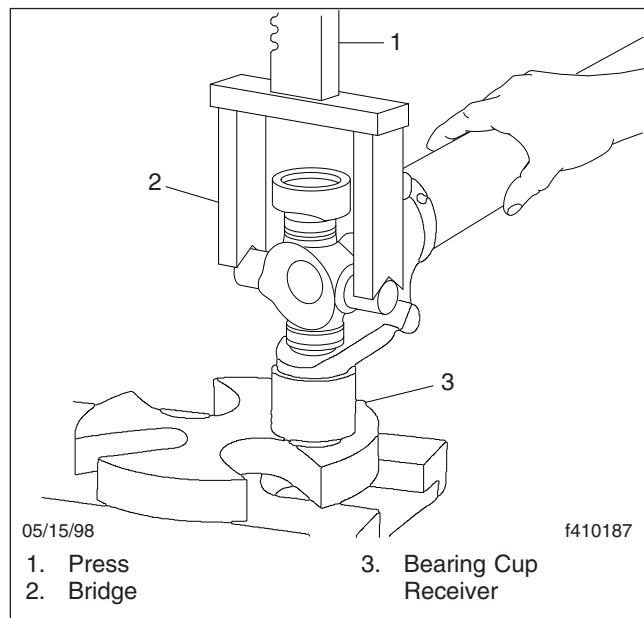

Fig. 7, Removing Bearing Cups from an RPL U-Joint
5. Remove both bearing cups from the yoke cross-holes. See Fig. 7. Remove the cross from the yoke.